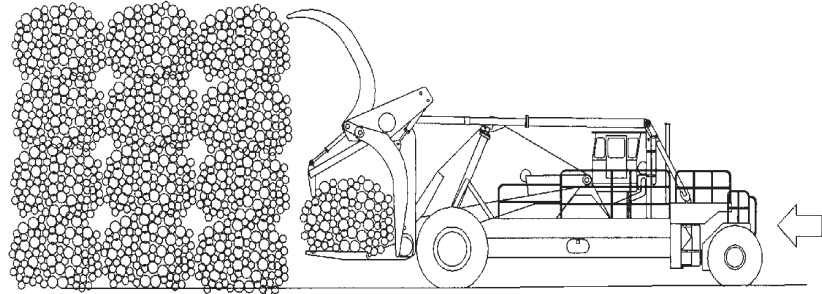

Figure 5-20
1. When approaching the deck with a bundle, clamp the bundle with the auxiliary holddown arms and then raise the main holddown arms. This allows the bundle to be placed tightly against the others (See Figure 5-20).